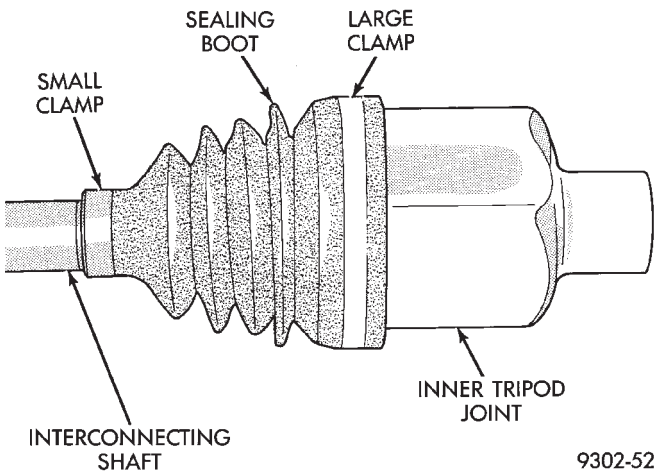

Fig. 23 Inner Tripod Joint Sealing Boot Clamps
(1) Remove the driveshaft requiring boot replacement from the vehicle. See Servicing Driveshaft in this section of the service manual for the required driveshaft removal procedure.
(2) Remove large boot clamp which retains inner tripod joint sealing boot to tripod joint housing (Fig. 23) and discard. Remove small clamp which retains inner tripod joint sealing boot to interconnecting shaft and discard. Remove the sealing boot from the tripod housing and slide it down the interconnecting shaft.